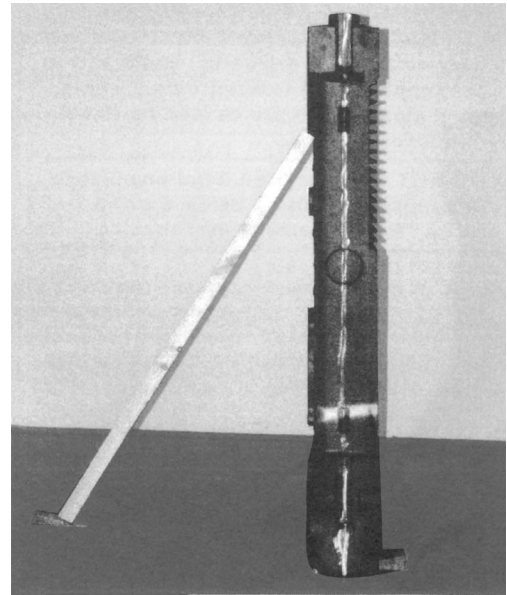

Figure 5: Positioning of Back Section
- Place the rear section in its approximate final position, as outlined in Section I, and support it with a suitable prop and wedges. See Figure 5.
- While the adhesive is becoming tacky, clean nipples and nipple ports thoroughly with a de-greasing solvent. Use the Loctite #592 provided to lubricate the nipples and nipple ports. Apply the lubricant to the nipples and nipple ports, then use a brush to disperse it evenly around the nipples and the nipple ports. Use approximately 25 ml of Loctite #592 per flueway [(1) 7" and (2) 3" nipples and their (6) corresponding nipple ports].